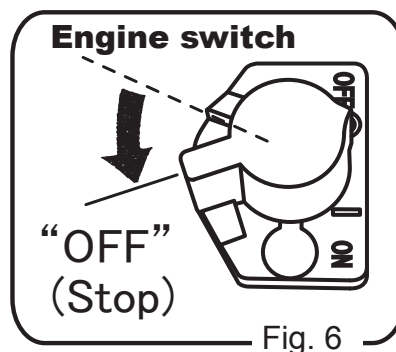

Fig. 6
- 2 Turn the engine switch to the OFF position, then the engine stops. (Fig. 6)